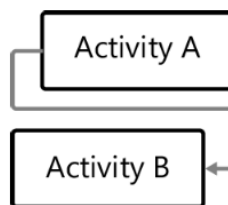

FIGURE 4-6 Start-to-finish relationship.
Start-to-finish (SF) A start-to-finish relationship indicates that the successor cannot finish until predecessor starts. For example, you may have an activity that is to send the invoice for a product, but the invoice cannot be sent (finished) until delivery of the product has started. This type of relationship is almost never used, because it seems to indicate that the successor should be the predecessor and vice-versa. Figure 4-6 depicts how this would be represented diagrammatically.